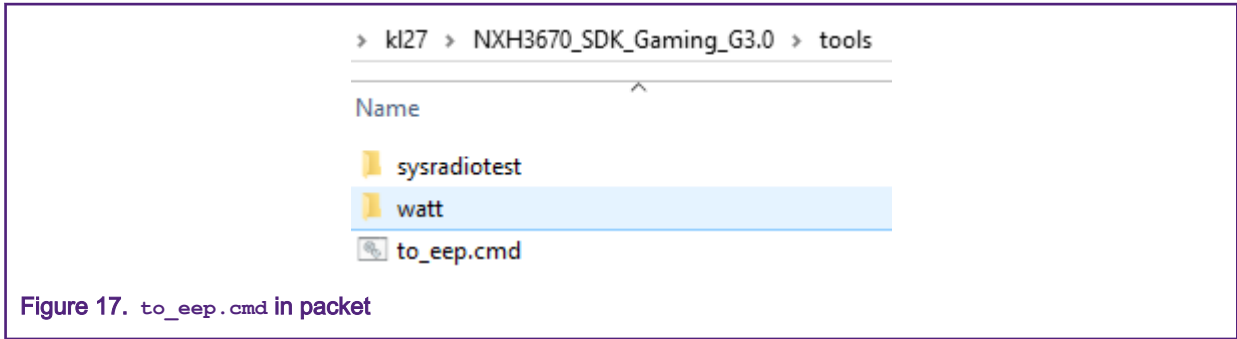

Figure 17. to_eep.cmd in packet
- SDK packet contains a tool called `to_eep.cmd` in release, as shown in Figure 17.